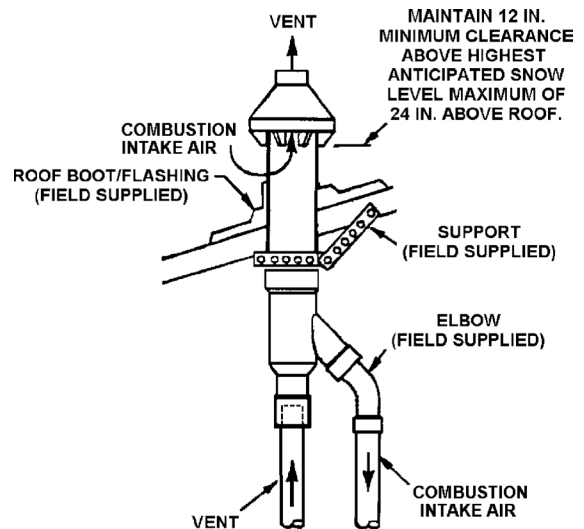

Figure 27
- Secure assembly to roof structure as shown in "Figure: 27" using field supplied metal strapping or equivalent support material.
NOTE: Ensure termination height is above the roof surface or anticipated snow level as shown in "Figure: 27".
- Cement water heater combustion air intake and vent pipes to concentric vent termination assembly. See "Figure: 27" for proper pipe attachment.